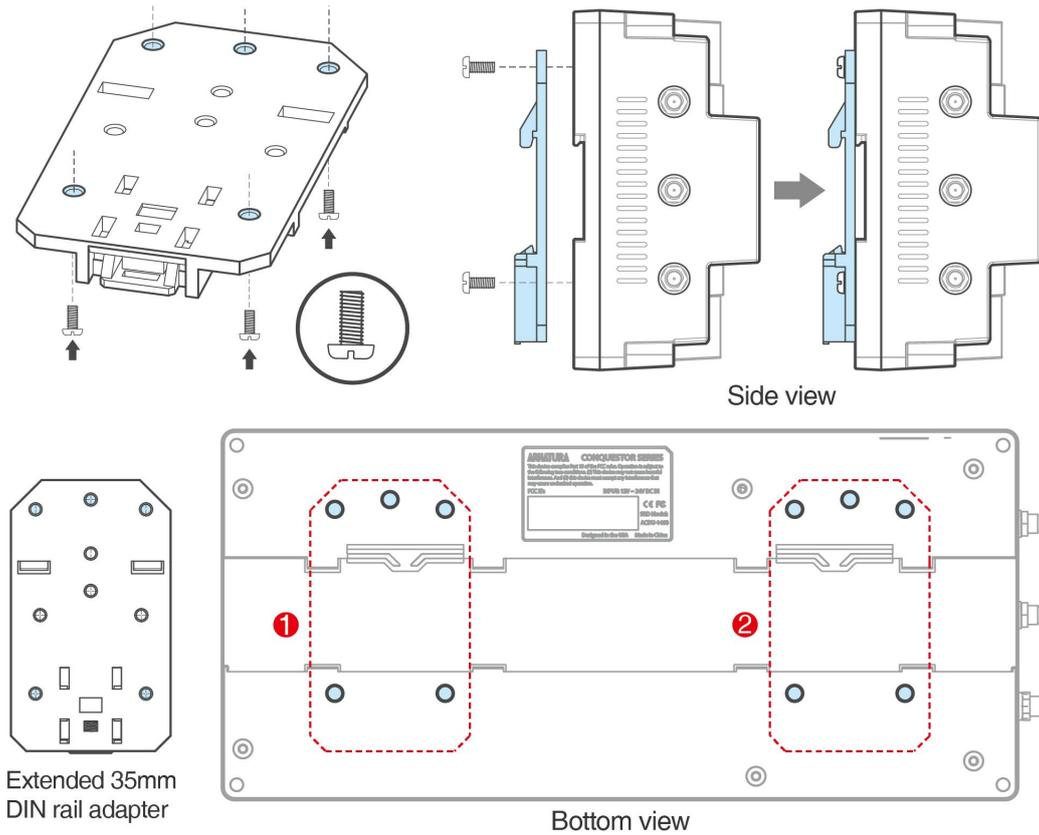

Figure 3-5 Mount the extended 35mm DIN rail adapters to the controller
- Mount the two extended 35mm DIN rail adapters in the locations, as shown in **Figure 3-5** below.